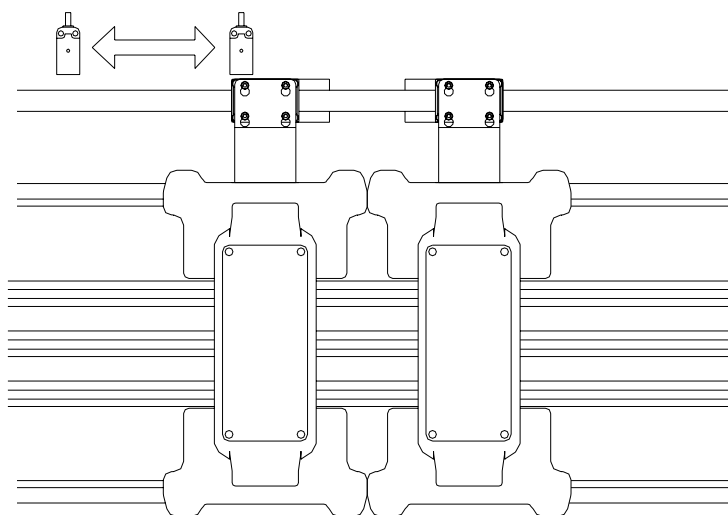

Fig.10-1 Combination & separation carriage
- ① Turn off power.
- ② Fig.10-1 is a top overview of carriages.
- ③ Loosen the four screws unconnected plate of driving belt, push the connecting-block to the direction of carriage to pass, then take off the connecting-block.
- ④ In separate situation , the interval of two knitting piece must be minimum 180 mm. (Each 90 mm inactive area to left and right from the central needle.)
- ⑤ Move carriage to the marked position on belt, and replace the belt fixed connecting-block.
- ⑥ Move the left orange relay which is on the back of driving belt as follows.